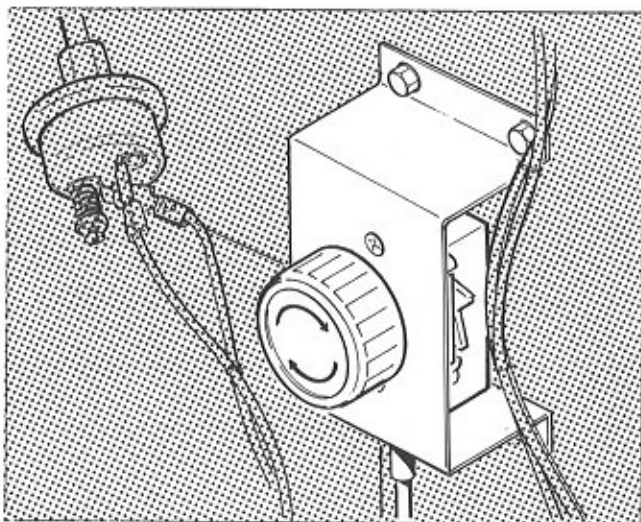

Figure 18. Sparker (Piezo) Pilot Lighter
- Is the Piezo lighter sparking (see Fig. 18)?